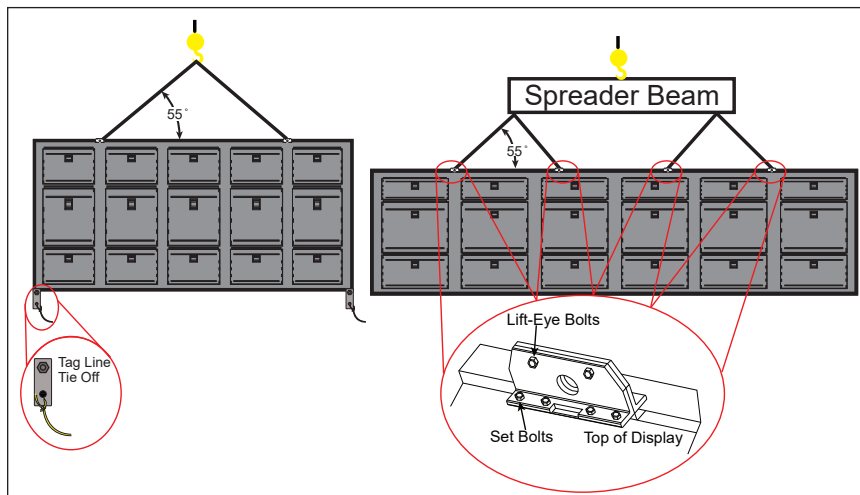

Figure 3: Display Lifting
4. Verify that the lift-eyes are installed and the lift-eye bolts and set bolts are in place. Refer to **Figure 3**. Lift eye spacing is set at Daktronics and should not be moved without the Project Manager's permission.
5. The angle on the lift-eye straps must be greater than 55° from horizontal. If there are more than 2 lift-eyes, attach a spreader beam. Each lift-eye must have its own strap. Refer to **Figure 3**. The table shows Daktronics recommended strap lengths for common display sizes.
7. Tie tag lines to the provided tag line tie off on the bottom corners of the display. Refer to **Figure 3**.